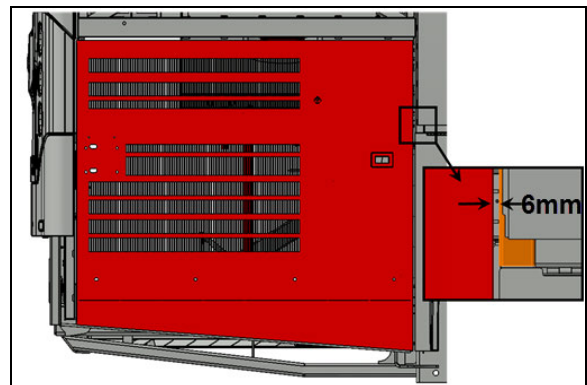

FIGURE 53
5. Check the gap between the door and the adjacent panel at the level of the upper attachment point of the arm on the door. The gap should be  $1/4$ " (6 mm) (FIGURE 53).